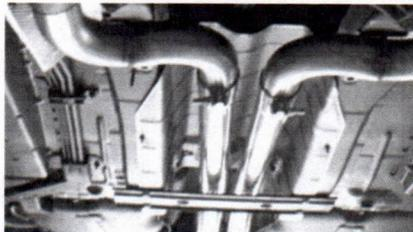

Figure 6
2. Reinstall the stock **Cross-Member** using the hardware removed earlier. **Refer to Figure 6.**